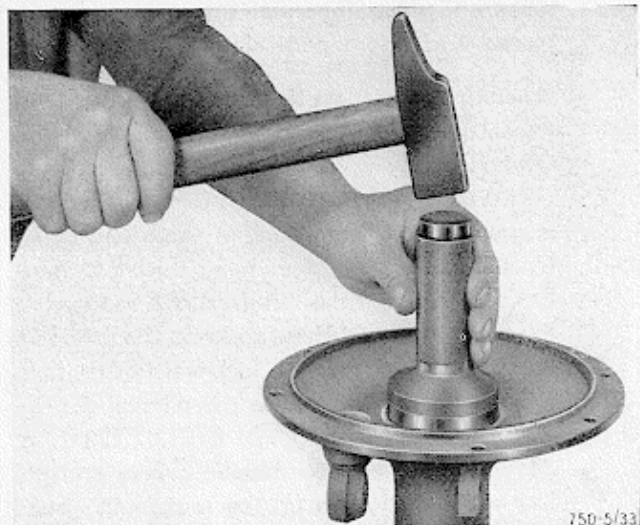

Fig. 33 - Mounting the outer taper roller bearing race for the differential casing in the left-hand axle tube
- mount the outer bearing race in the left hand tube, using tool 6121.07.141 (Fig. 33) and make sure that the race is well home in its seating;